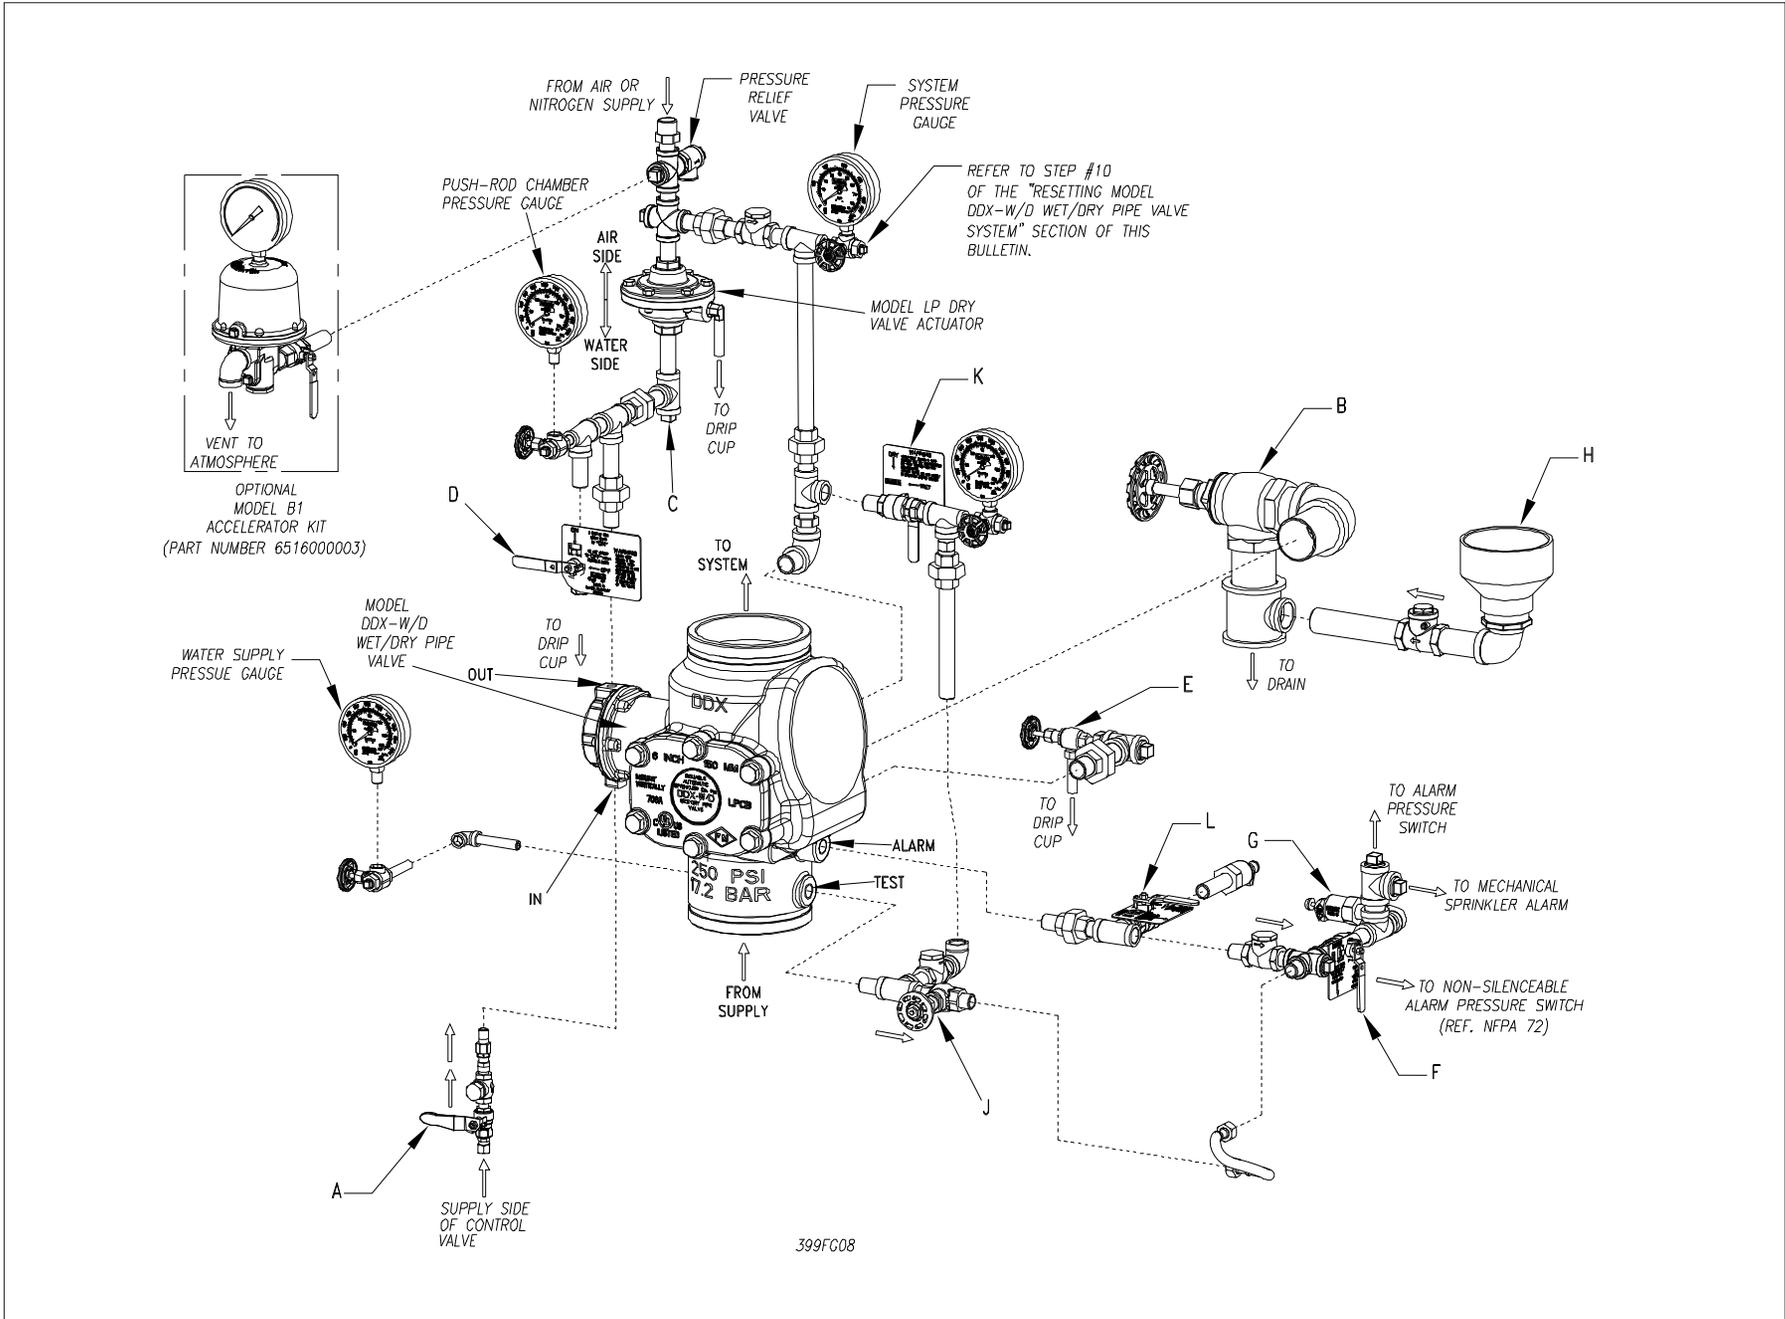

Fig. 8.
8. With valve F (fig. 8) open, push in the plunger of the ball drip valve, valve G (Fig. 8), to force the ball from the seat, and drain any water from the alarm line.
9. With the Model B Hydraulic Manual Emergency Station, valve D (Fig. 8), open, rotate the Model DDX-W/D's reset knob (#38 Fig. 7) clockwise until you hear the distinct noise, indicating that the clapper has closed. **Note:** The reset knob can only rotate when the pushrod chamber is vented through the Model B Hydraulic Manual Emergency Station, valve D (Fig. 8)
11. Open Valve A (Fig. 8) and allow water to fill the Wet/Dry valve's pushrod chamber.
12. Bleed all air from the actuation piping by allowing a steady stream of water to flow through the Model B Hydraulic Manual Emergency Station, valve D (Fig. 8). After all trapped air is released, close valve D (Fig. 8). Water should still be coming out of the Model LP Dry Valve Actuator (Fig. 8).
13. Close valve F and valve L (Fig. 8). Rapidly apply compressed air or nitrogen into the Model LP Dry Valve Actuator and the system until the system conforms to Table B levels, as indicated on the air pressure gauge (Fig. 8). The Model LP Dry Valve Actuator will close during this pressurizing process and the water will stop flowing into the drip cup. **Note:** It may be necessary to temporarily close the main drain, valve B (Fig. 8) in order to build sufficient air pressure to "set up" the Model LP Dry Valve Actuator. Once the Model LP Dry Valve Actuator is "set up", the main drain valve, valve B (Fig. 8) should be reopened and the remaining procedure followed. At this point, the pressure gauge which indicates pushrod chamber pressure (Fig. 8) will equalize to the available water supply pressure. **Note:** It may be necessary to isolate the system pressure gauge (Fig. 8) in the air supply
15. Open valve F and valve L (Fig. 8). Slightly open the main valve controlling water supply (Fig. 8) to the Model DDX-W/D Wet/Dry Valve, closing drain valve B (Fig. 8) when water flows. Observe if water leaks through the ball drip valve, valve G (Fig. 8) into the drip cup, H (Fig. 8) If not leak occurs, the Wet/Dry Valve's clapper is sealed. Open slowly, and verify that the main valve controlling water supply is fully open and properly monitored.
16. Verify that valve A, valve F and valve L (Fig. 8) are open.
17. Verify that the Wet/Dry conversion valve, valve K (Fig. 8) is in the "DRY" position. If not, start over from the beginning.
18. Secure the handle of the Model B Hydraulic Emergency Station, valve D (Fig. 8), in the "OFF" position with a nylon tie (#56, Fig. 2).
1. Close the main valve controlling water supply (Fig. 8).
2. Close the pushrod chamber supply valve, valve A (Fig. 8)
3. Open the Model B Hydraulic Manual Emergency Station, valve D (Fig. 8). **Note:** Valve should trip and relieve the pressure under the clapper when this step is taken.
4. Rotate the Wet/Dry conversion valve; valve K (Fig. 8) to the "WET" position.
6. Close valve F and valve L (Fig. 8)
9. Close the main valve controlling water supply (Fig. 8) to the Model DDX W/D Wet/Dry valve. Open the main drain valve B (Fig. 8).
10. Open valve F and valve L (Fig. 8). Slightly open the main valve controlling water supply (Fig. 8) to the Model DDX-W/D Wet/Dry Valve, closing drain valve B (Fig. 8) when water flows. Observe if water leaks through the ball drip valve, valve G (Fig. 8) into the drip cup, H (Fig.8) If no leak occurs, the Wet/Dry Valve's clapper is sealed. Open slowly, and verify
11. Verify that valve A (Fig. 8) is closed and valve F (Fig. 8) is open.
12. Verify that the Wet/Dry conversion valve, valve K (Fig. 8) is in the "WET" position.
13. Secure the handle of the Model B Hydraulic Emergency Station, valve D (Fig. 8), in the "ON" position with a nylon tie (#56, Fig. 2).
2. **Wet/Dry conversion valve K (Fig. 8)** – check that valve K (Fig. 8) is in the "DRY" position.
3. **Alarm line** – be sure that valve F and valve L (Fig. 8) are open and remain in this position.
4. **Other trimming valves** – check that valve A (Fig. 8) is open as well as all of the pressure gauges 3-way valves. Valves D, E and J (Fig. 8) should all be closed.
5. **Ball drip valve G (Fig. 8)** – make sure valve F and valve L (Fig. 8) are open. Push on plunger to be sure the ball check is off its seat. If no water appears, the Wet/Dry Valves water seat is tight. Inspect the bleed hole (Fig. 7) on the underside of the pushrod chamber for leakage.
6. **System pneumatic Pressure** – check air pressure gauge (Fig. 8) and water supply pressure gauge (Fig. 8) for conformance to Table B.
7. **Model LP Dry Valve Actuator (Fig. 8)** – Verify that the outlet is not leaking water. Check the air pressure gauge (Fig. 8) for proper pressure setting. Verify that the tubing line from the Actuator is not pinched or crushed, which could prevent proper operation of the Wet/Dry Valve.
8. **Testing alarms** – make sure valve F and valve L (Fig. 8) are open. Open valve J (Fig. 8) permitting water from the supply side to flow to the electric sprinkler alarm switch and to the mechanical sprinkler alarm (water motor). After testing, close the valve securely. Push in on the plunger of the ball drip valve G (Fig. 8) until all of the water has drained from the alarm line.
9. **Operational test** – Open the Model B Hydraulic Manual Emergency Station, valve D (Fig. 8). **Note: An operational test will require the Wet/Dry Valve to open and flow water into the sprinkler system. Resetting of the valve will be required, see the "Resetting the Model DDX-W/D Valve System" section in this bulletin.**
10. Secure Model B Hydraulic Manual Emergency Station; valve D (Fig. 8), in the "OFF" position with a nylon tie (#56, Fig. 2) after the Wet/Dry Valve is reset in the Dry Configuration.
2. **Wet/Dry conversion valve K (Fig. 8)** – check that valve K (Fig. 8) is in the "WET" position.
4. **Other trimming valves** – check that valve D (Fig. 8) is open as well as all of the pressure gauges 3-way valves are open. Valves A, E and J (Fig. 8) should all be closed.